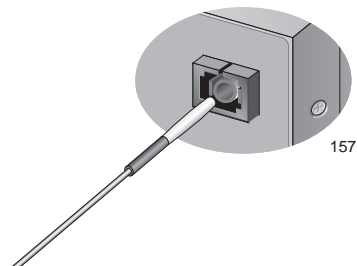

Figure 76. Cleaning a Recessed Ferrule
1. Insert the swab into the adapter as shown in Figure 76 and rub the ferrule tip with the swab.